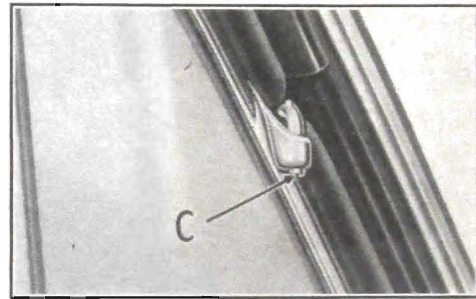

Fig. 1-104. Door ventilator upper pivot and socket. Note slotted adjustment "C"
- Fig. 1-104. The lower end of this pivot is slotted